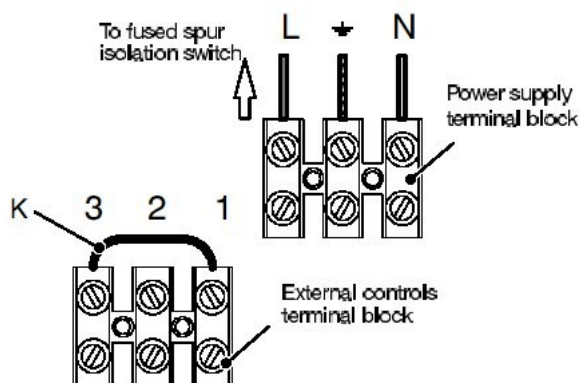

Fig. 5.37
5. Connect the electrical supply flexible cord coming from the fused spur isolation switch to the power supply terminal block of the boiler (Fig. 5.37) keeping the same connections for the live (brown wire) and the neutral (blue wire).
When connecting any type of external control, the jumper K in Fig. 5.37 must be removed.